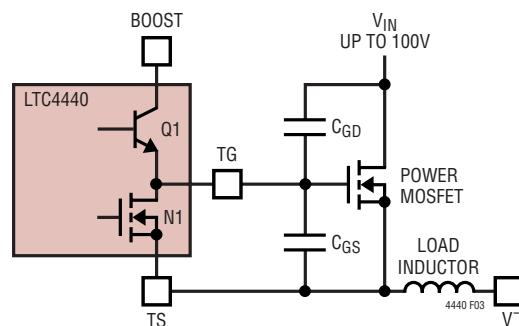

Figure 3. Capacitance Seen by TG During Switching
A simplified version of the LTC4440's output stage is shown in Figure 3. The pull-down device is an N-channel MOSFET (N1) and the pull-up device is an NPN bipolar junction transistor (Q1). The output swings from the lower rail (TS) to within an NPN  $V_{BE}$  (~0.7V) of the positive rail (BOOST). This large voltage swing is important in driving external power MOSFETs, whose  $R_{DS(ON)}$  is inversely proportional to its gate overdrive voltage ( $V_{GS} - V_{TH}$ ).